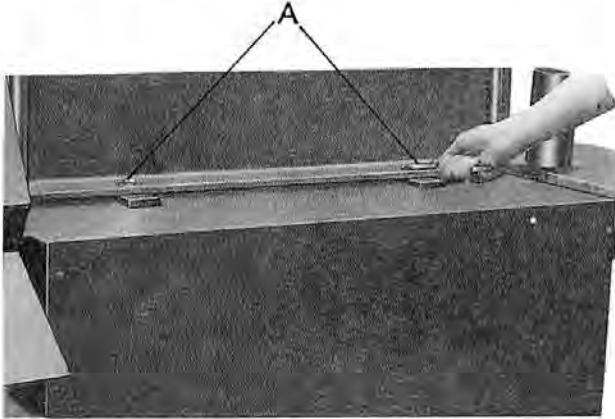

Fig.8.
3. Loosen the two fixed screws (A), Fig. 8, on the steel platen.